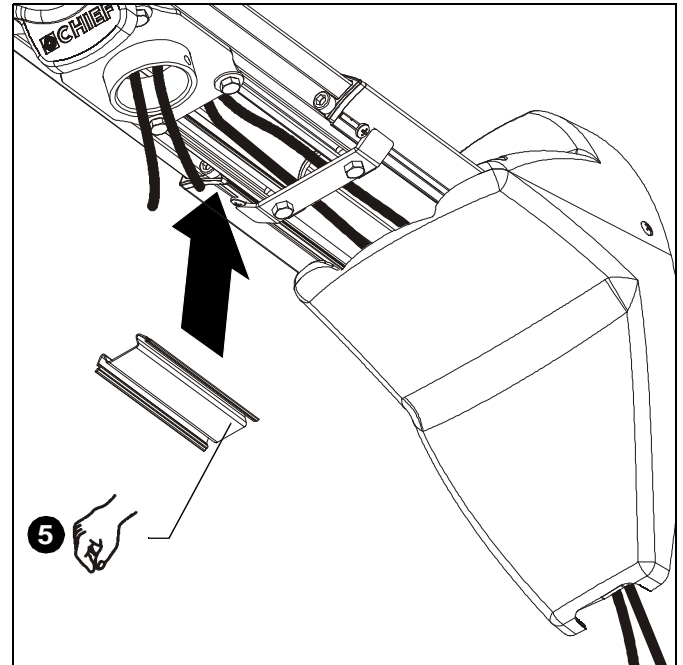

Figure 20
- Replace removed cable management cover (if necessary) by snapping it into place. (See Figure 20)